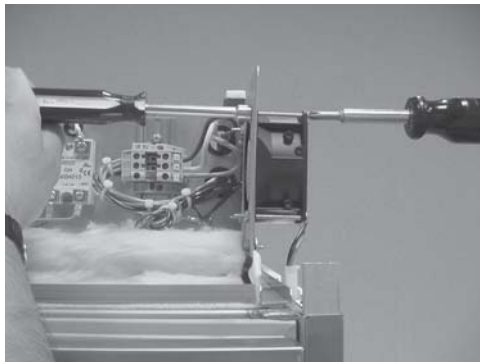

Figure 3-23
3. Remove screws and nuts securing the fan and remove fan from module. Figure 3-23.